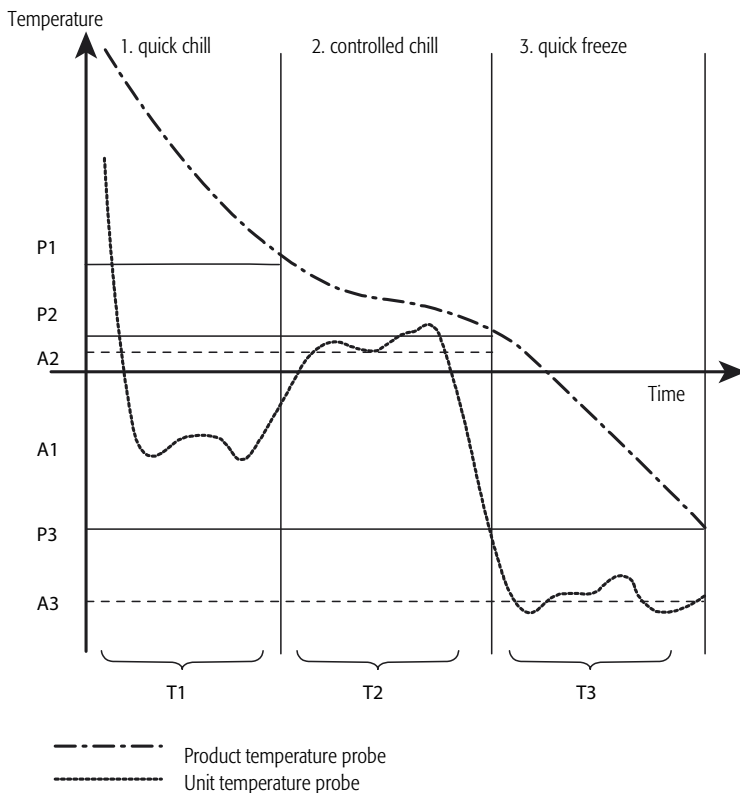

Fig. 4.2 Complete cycle.
- blast chiller temperature set point A1, A2, A3 in Fig. 4.2
- product temperature set point for the final phase (cycle by temperature) P1, P2, P3 in Fig. 4.2.